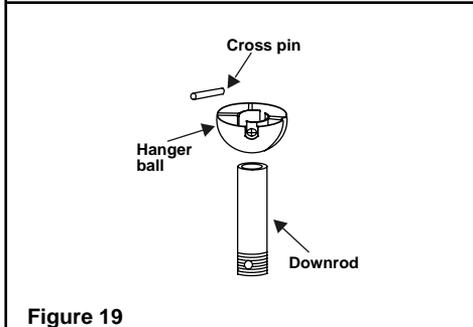

Figure 19
Step 2. Remove hanger ball from downrod assembly by loosening set screw, removing the cross pin, and sliding ball off rod. (Fig. 19)